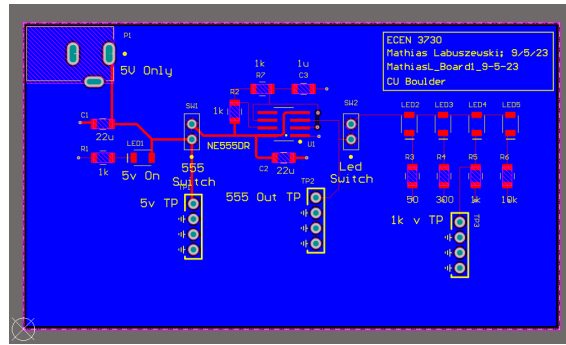

Figure 3: PCB layout of Board 1
- The PCB was designed with debug in mind. (Figure 3 & 4)